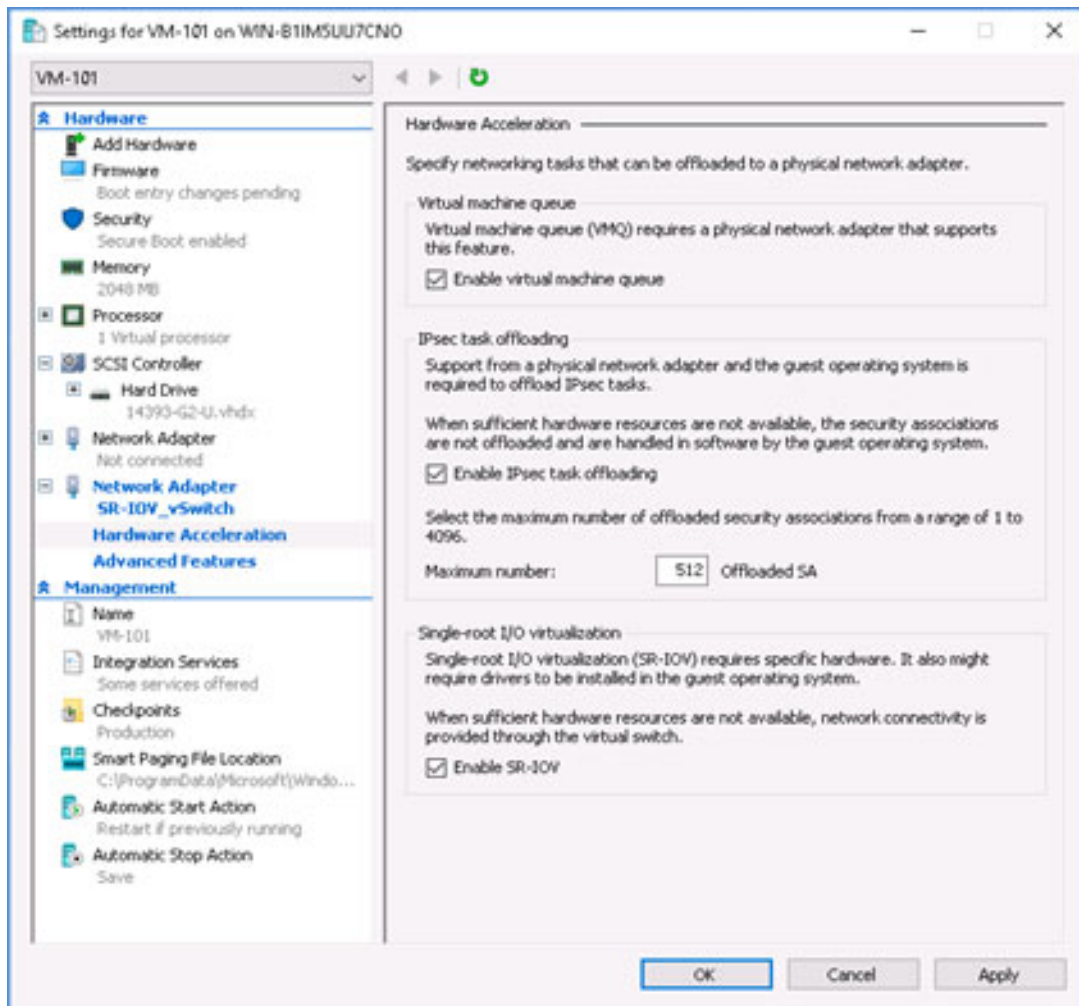

Figure 12-5. Settings for VM: Enabling SR-IOV
12. To create a virtual machine (VM) and export the virtual function (VF) in the VM:
- d. In the Settings for VM <VM_Name> dialog box (Figure 12-5), Hardware Acceleration page, under **Single-root I/O virtualization**, select the **Enable SR-IOV** check box, and then click **OK**.